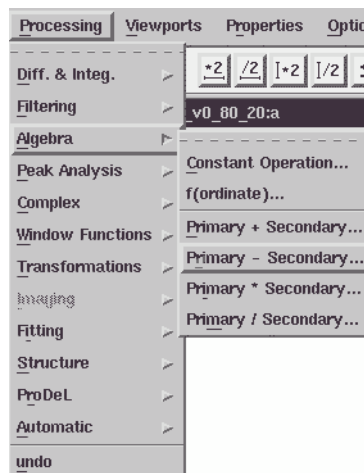

Figure 6-53 Launching the Algebra function.
2. **Start the process.** Click Processing in the menu bar and then Algebra. Select Primary - Secondary. (See Figure 6-53.)